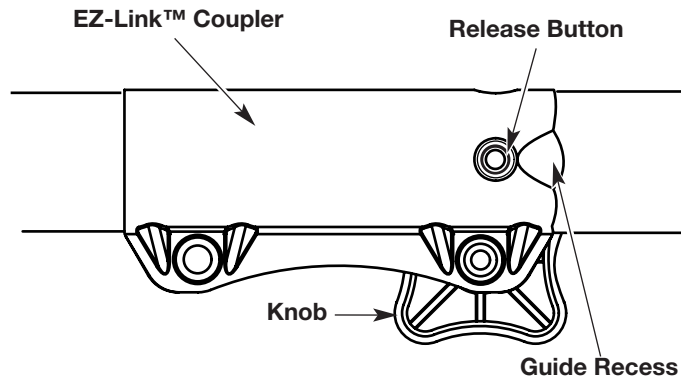

Fig. 23
2. Press and hold the release button (Fig. 23).
**NOTE:** Aligning the release button with the guide recess will help installation (Fig. 23).